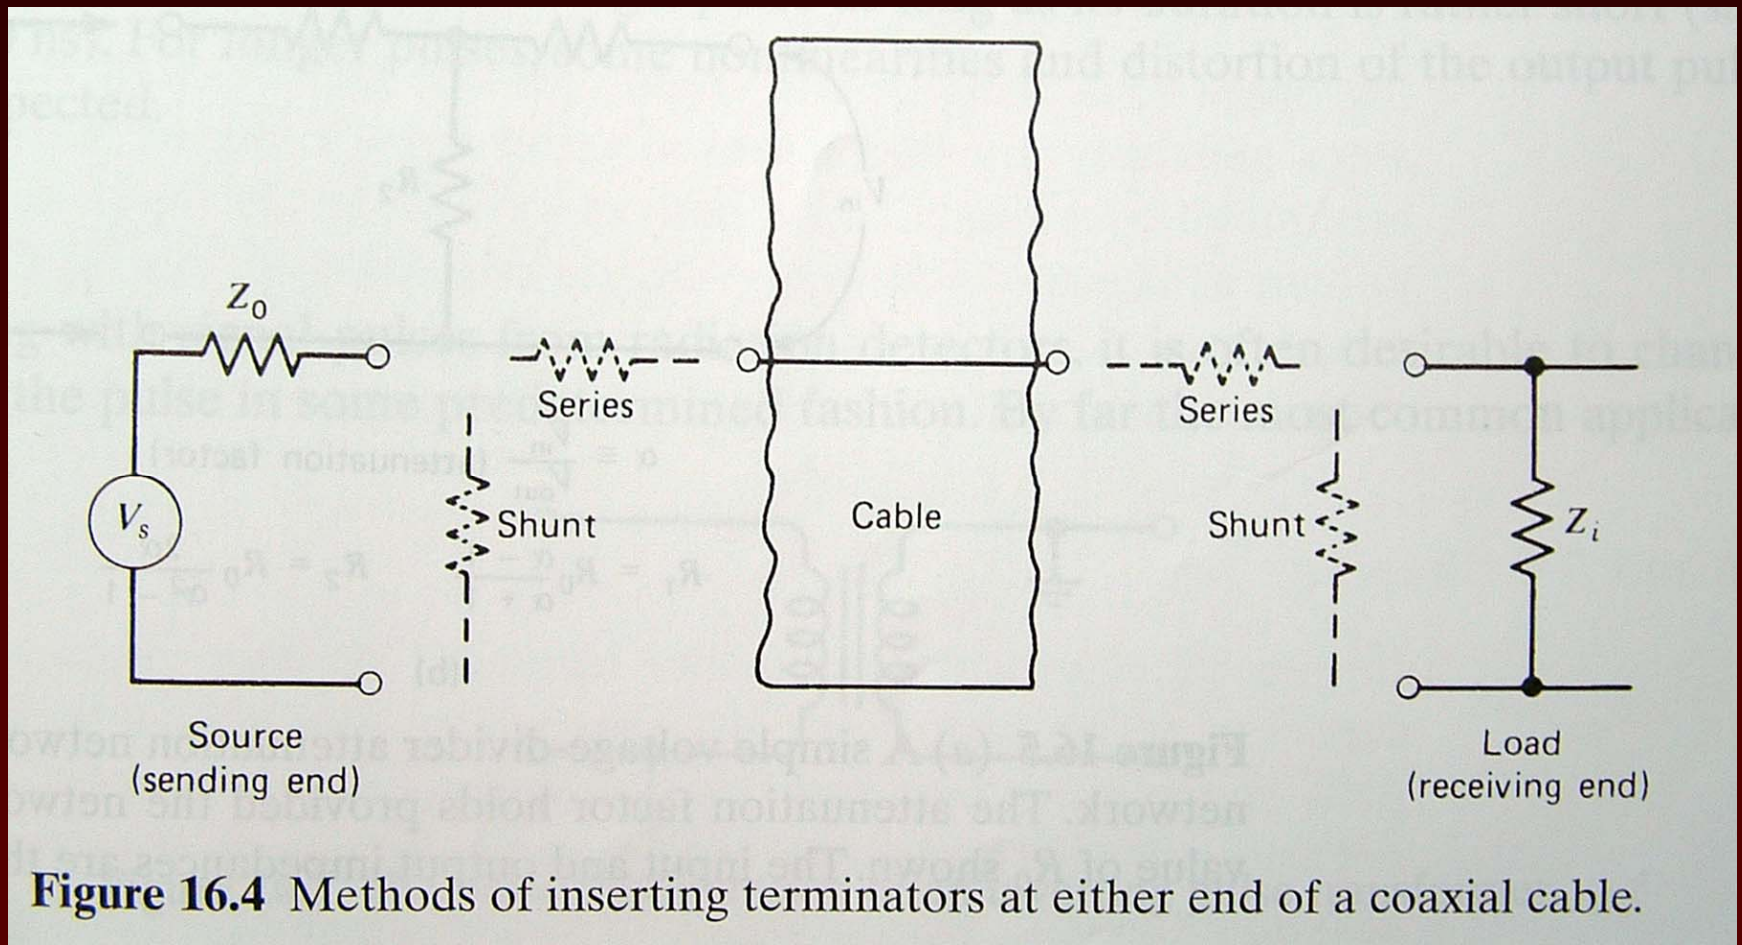

Figure 16.4 Methods of inserting terminators at either end of a coaxial cable.
- Figure 16.4 shows the various geometries for inserting terminators on either end of the cable